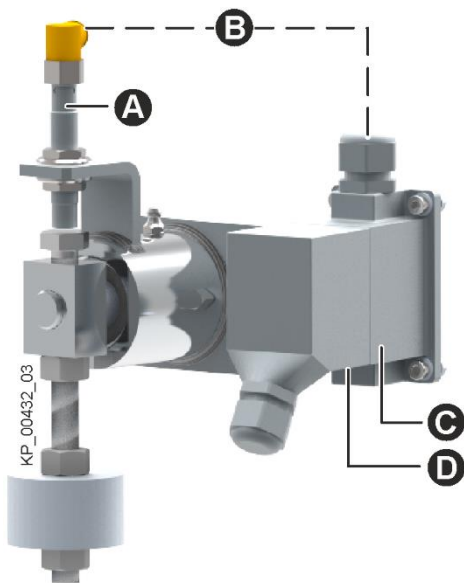

Fig. 33: Overflow safety device
- Lead a cable (Fig. 33/B) from the proximity switch (Fig. 33/A) to the plug device (Fig. 33/C) and connect it.
- Install a cable from the plug (Fig. 33/D) to the terminal box of the machine and connect it according to the wiring diagram.